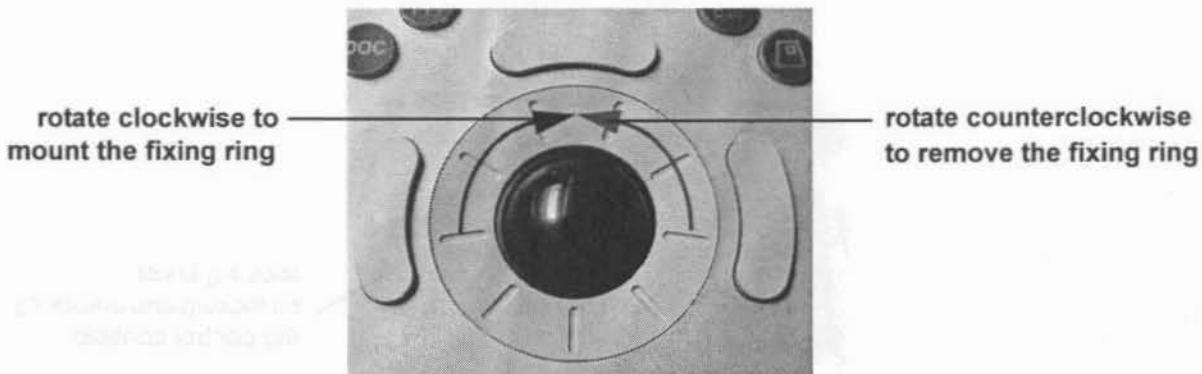

Figure 6-3 Trackball with fixing ring
- 3.) Mount the outer fixing ring by turning it clockwise. see Figure 6-3